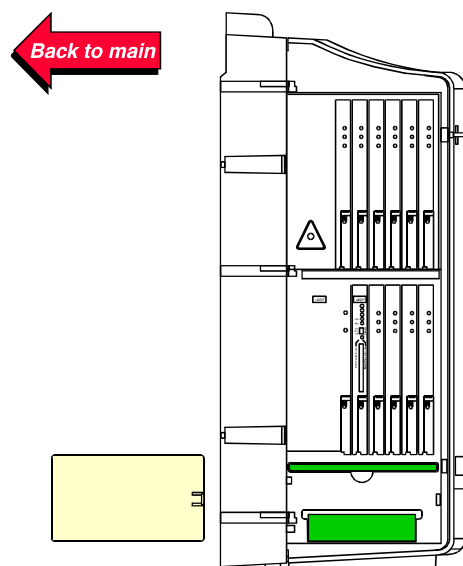

Figure 5-16. Fan/Filter Removal
2. Remove the fan/filter access panel. See Figure 5-16.